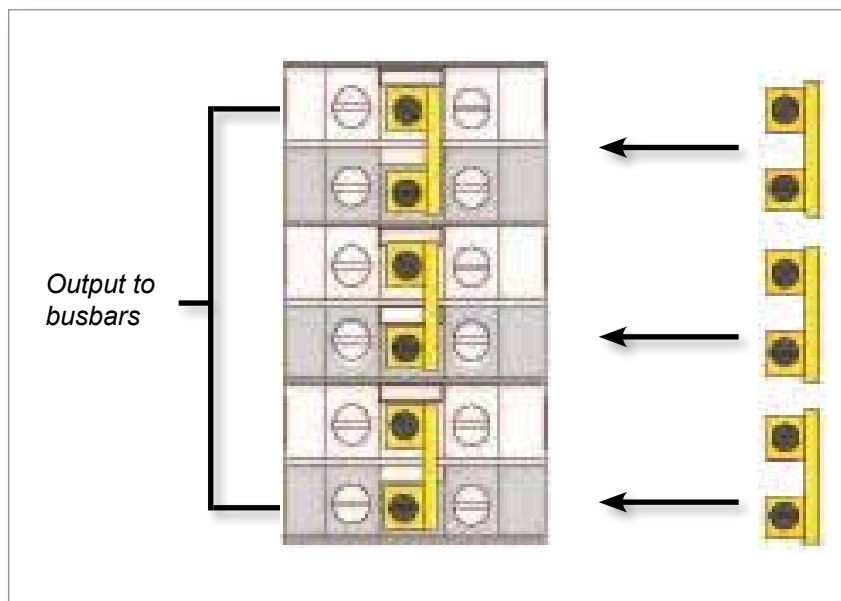

Figure 9-4 Install the three 2-way links
2. Install the three 2-way links. Refer to Figure 9-4.